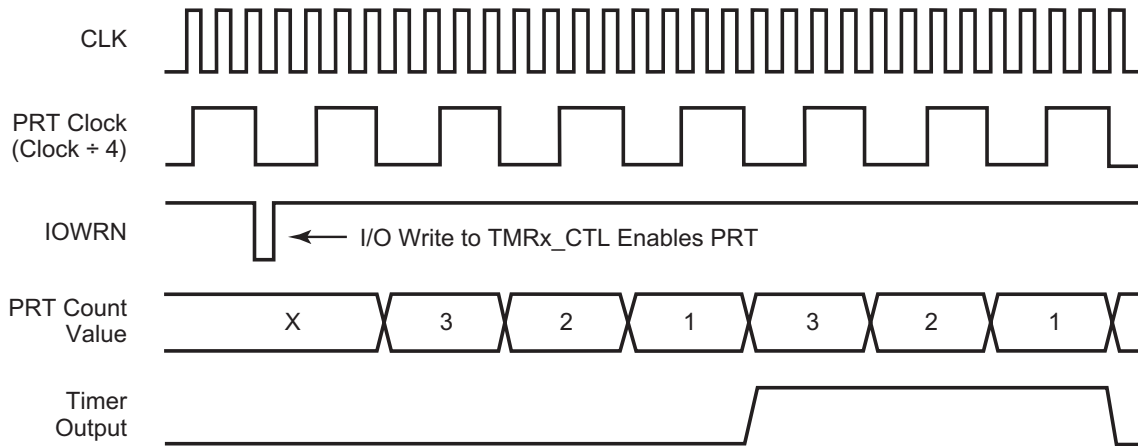

Figure 22.PRT Timer Output Operation Example
Two of the Programmable Reload Timers (Timers 4 and 5) can be directed to GPIO Port B output pins (PB4 and PB5, respectively). To enable the Timer Out feature, the GPIO port pin must be configured for alternate functions. After reset, the Timer Output feature is disabled by default. The GPIO output pin toggles each time the PRT reaches its end-of-count value. In CONTINUOUS mode operation, the disabling of the Timer Output feature results in a Timer Output signal period that is twice the PRT time-out period. Examples of the Timer Output operation are illustrated in Figure 22 and Table 33. In these examples, the GPIO output is assumed to be Low (0) when the Timer Output function is enabled.